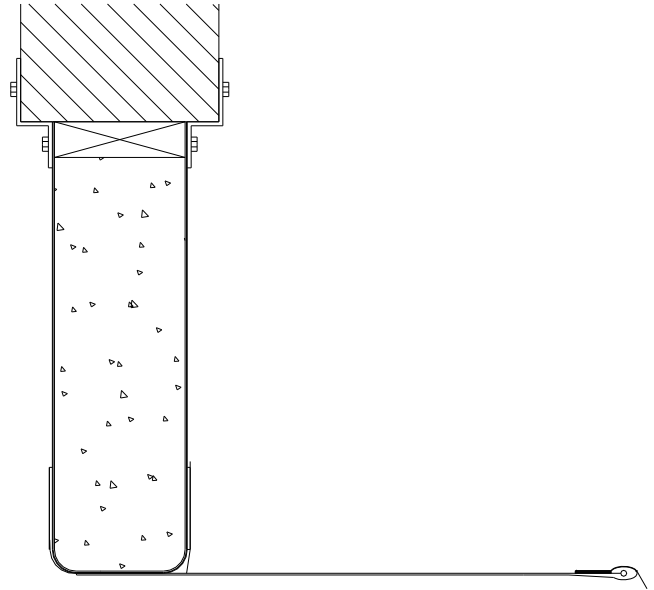

FIGURE 16
4. Starting at the top, repeat Steps 1 & 2, to the inside velcro flap on the side curtain. However, due to variations, the velcro flap on the side curtain may not always cover the velcro on the inside face of the side perfectly. It is important to make sure the side curtain is perpendicular to the side frame when inished. (**Note: Always align outside velcro flap first.**) (See Figure 16)